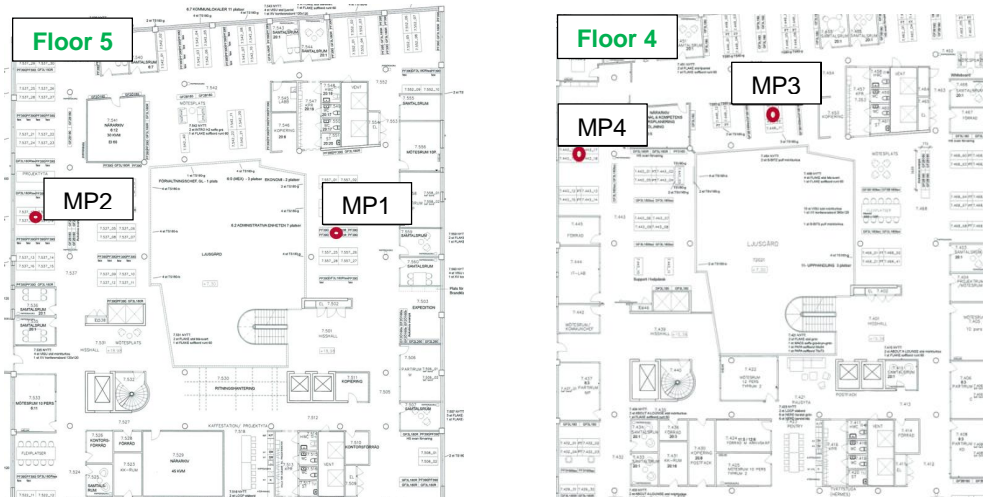

Figure 1 Measurement points at floor 4 and 5
Evaluation of room acoustic parameters according to ISO 3382-3:2012 has been performed at Sundbybergs kommunhus open offices. Measurements of sound pressure level from conventional office activities were performed as part of the acoustic evaluation. Measurements were performed in offices at floor 4 and 5. Sound pressure levels were registered at four different measurement points (MP), see Figure 1.